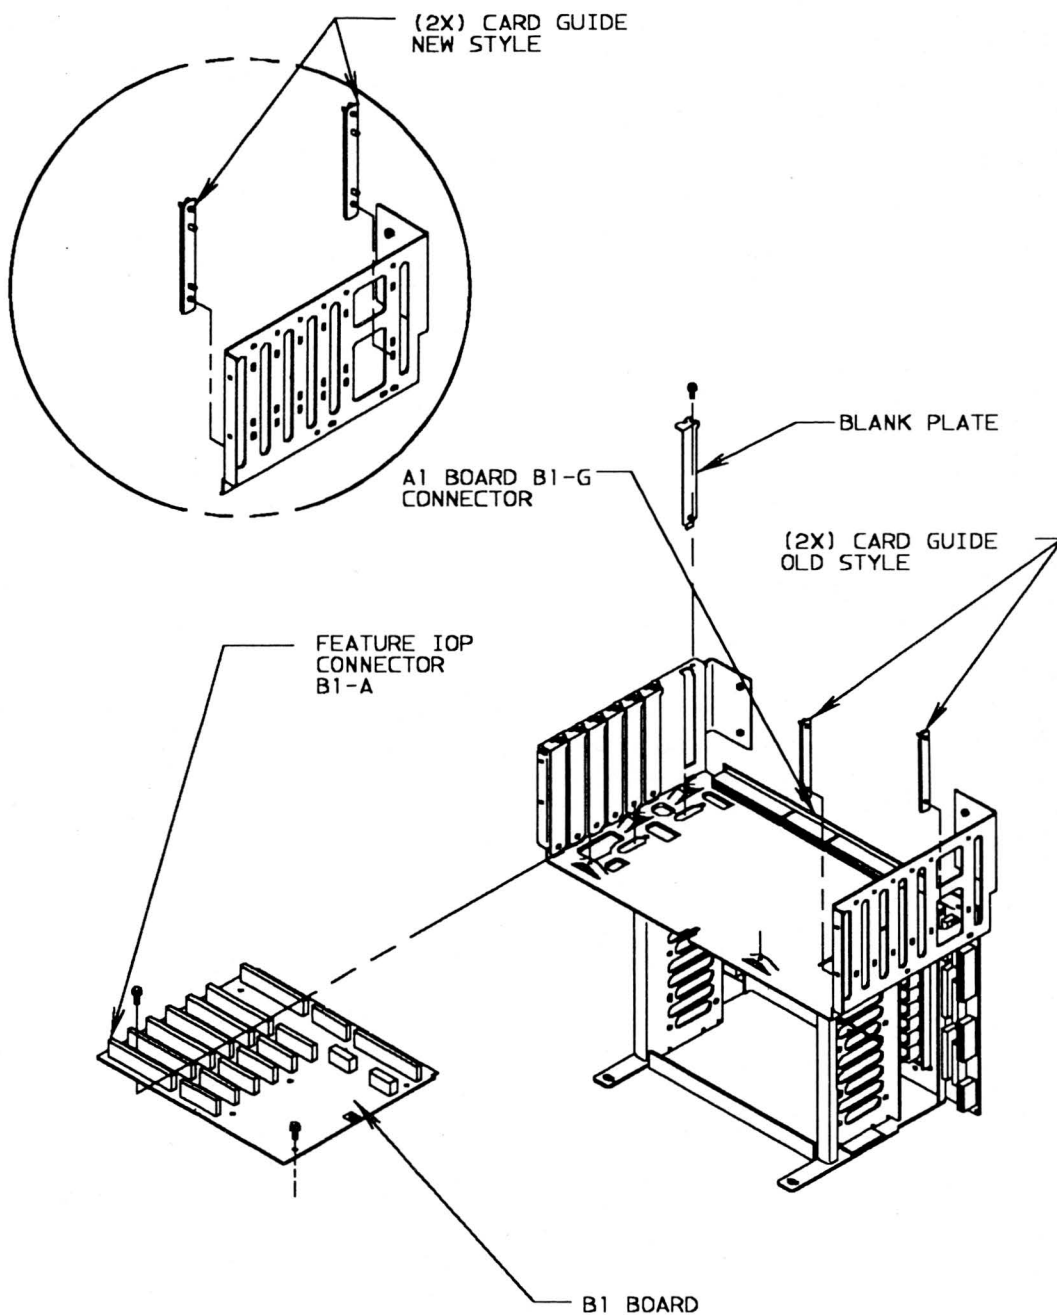

FIGURE 0
- 10.3.3 Add one logic card guide, Part Number 92X3367, as shown in Figure 0.